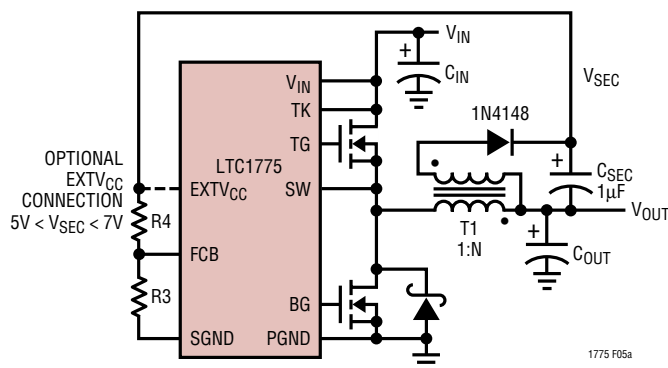
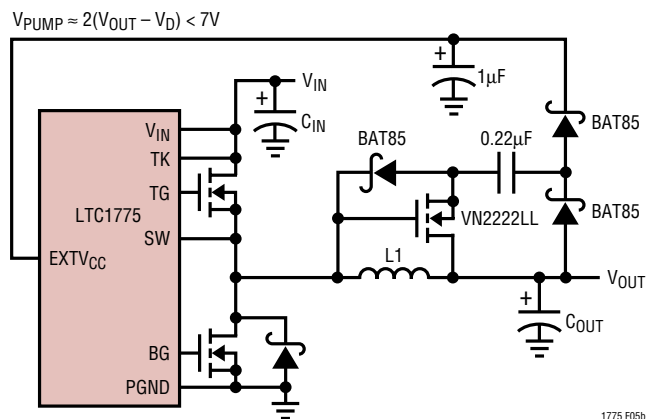

Figure 5a: Secondary Output Loop and EXTVCC Connection
Figure 5b: Capacitive Charge Pump for EXTVCC
3. EXTVCC connected to an output-derived boost network. For 3.3V and other low voltage regulators, efficiency gains can still be realized by connecting EXTVCC to an output-derived voltage which has been boosted to greater than 4.7V. This can be done with either an inductive boost winding as shown in Figure 5a or a capacitive charge pump as shown in Figure 5b.
The secondary output voltage  $V_{SEC}$  is normally set as shown in Figure 5a by the turns ratio  $N$  of the transformer: